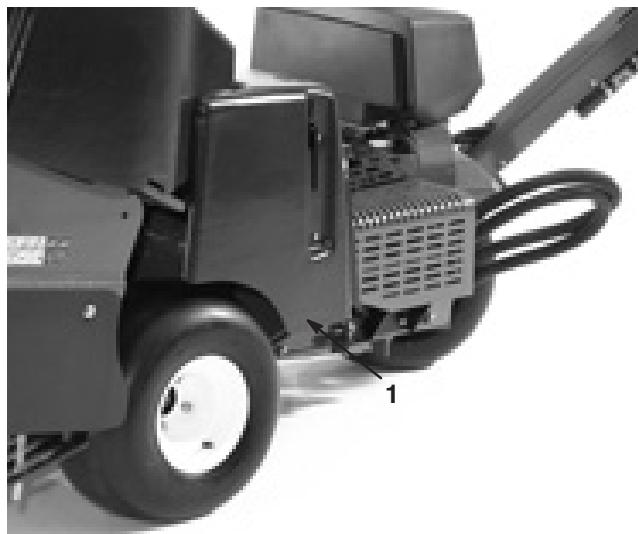

Figure 56
1. Unlatch and remove the belt cover (Fig. 56).